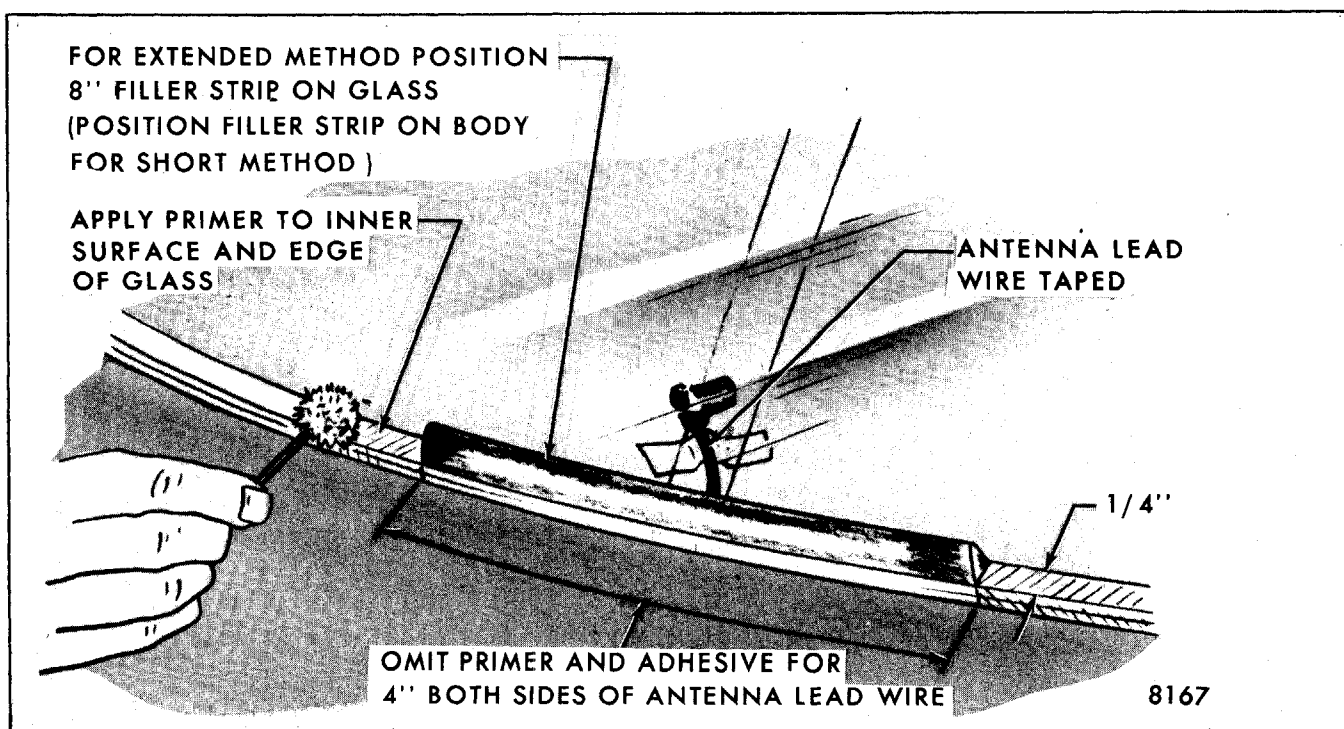

Fig. 11-11-Embedded Windshield Antenna Installation
- a. On windshields equipped with embedded antenna, apply primer around periphery of glass as shown in Figure 11-11. Do not apply primer between marks established in step 3. Allow primer to dry 5 minutes.
- b. On windshields without embedded antenna and other stationary glass, apply primer around entire perimeter of glass edge and 6 mm (1/4") inboard on inner surface as in partial application of primer as shown in Figure 11-11. Allow primer to dry 5 minutes.
- a. On windshield equipped with embedded antenna, apply primer around periphery of glass as shown in Figure 11-11. Do not apply primer at location of filler strip applied in step 9. Allow primer to dry 5 minutes.
- b. On windshields without embedded antenna and other stationary glass, apply primer to entire perimeter of glass edge and 6 mm (1/4") inboard on inner surface as shown in Figure 11-11. Allow primer to dry for 5 minutes.